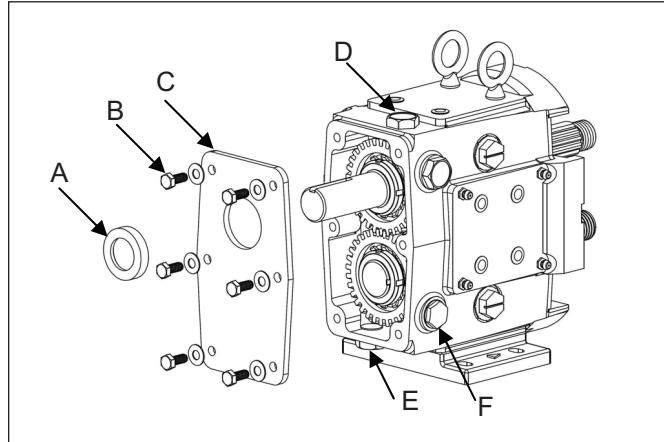

Figure 38. Gear Case Disassembly (Gear Case Cover)
1. Remove the pump head as described on page 21 (Pump Disassembly). Remove the bottom oil plug and drain the oil from the gear case (remove oil fill plug for faster drain). Remove the six hex head cap screws and washers from the gear case cover and slide the cover off the drive shaft (*Figure 38*). If the cover is stuck, use a soft mallet to tap around the edges until it breaks free. Using a straight edge remove the liquid gasket used to seal the cover to the gear case. Remove and discard the oil seal from the cover using an arbor press.